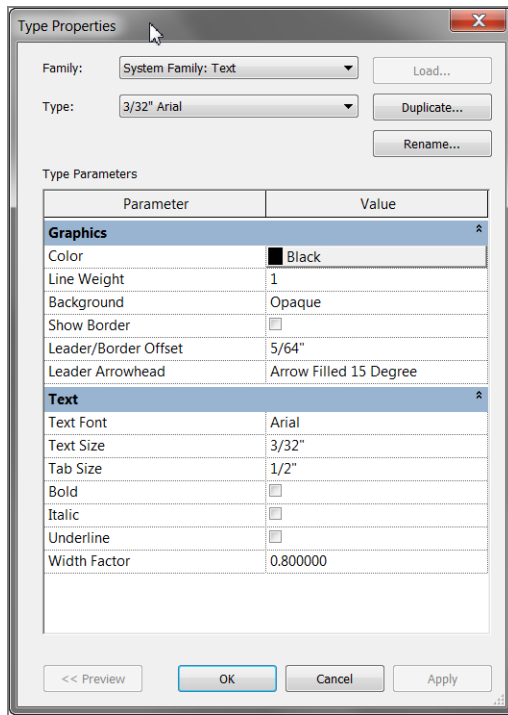

FIGURE 5.52: Changing that ugly arrow
2. Change the Leader Arrowhead parameter to Arrow Filled 15 Degree, as shown in Figure 5.52.